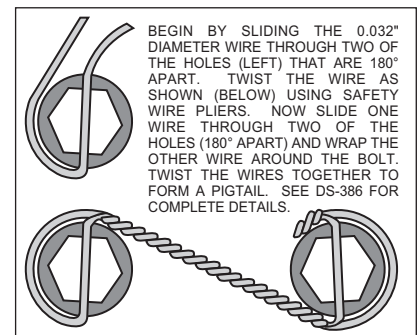

Figure 3. Safety Wire Diagram
configuration. Always use the same amount of shims on both the top and bottom caliper mounting bolts (14). Apply red *Loctite*® 271 to bolt threads (14) and torque to 40 ft-lb. Safety wire caliper bolts (14) using standard 0.032 inch diameter stainless steel safety wire as shown in Figure 3.
- Install the disc brake pads (16) and secure using retainer clip (17).